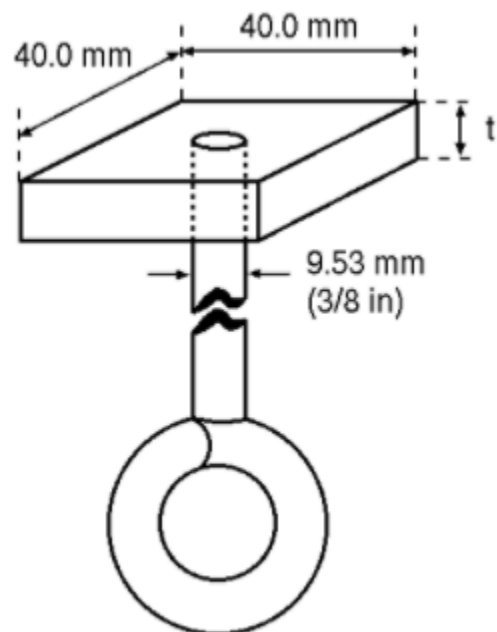

Figure 1. Loading Plate Detail
2. The bridge (see auxiliary figure) must span a gap (**S**) of 300. mm, be no shorter than 305. mm or longer (**L**) than 400. mm, be no taller (**H**) than 80. mm above the support surface, and no wider (**W**) than 80. mm at the loading surface. The bridge structure may project a maximum of (**B**) of 20. mm below the support surfaces (see Figure 1). The structure may not interact with the vertical faces of the support surfaces.
2. The load will be applied by means of a 40. mm square plate (see Figure 1) with a thickness (**t**) of 10 mm. A 9.53 mm (3/8 inch) diameter eyebolt is attached from below to the center of the plate and extends beyond 100 mm above the supports. The plate will be horizontal and will be mounted with two edges parallel to the longitudinal axis of the bridge.
3. The load will be applied with the center of the plate at one of two (2) possible loading locations on the longitudinal axis of the bridge: 20. mm to the right and left of center of the span. The 2 loading locations must lie in the same horizontal loading plane (**P**) between 0. and 15. mm above the support surface.